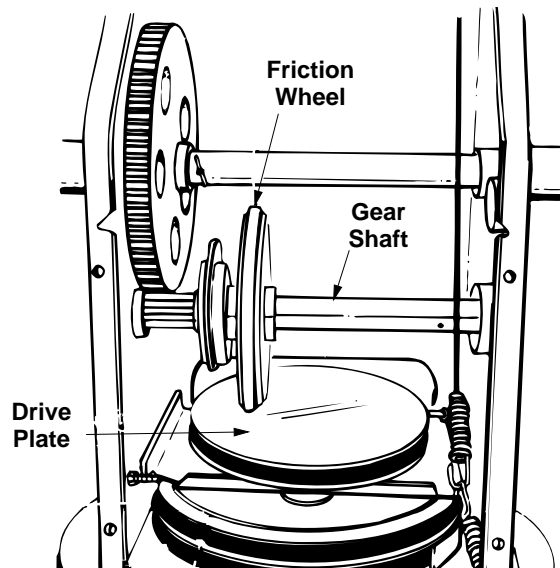

Figure 26
4. With the traction drive clutch engaged, check if the friction wheel is contacting the drive plate. See Figure 26. For correct adjustment, these two must contact.